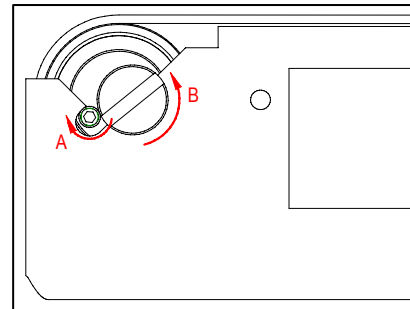

Figure 1
❶ Release Belt Tension
- a. At the tail end rotate set screw clockwise until it clears the inside of the frame (**Figure 1**).
- b. Rotate the tail shaft counter-clockwise (using a Flat Head Screw Driver) until the tension from the belt is released (**Figure 1**).